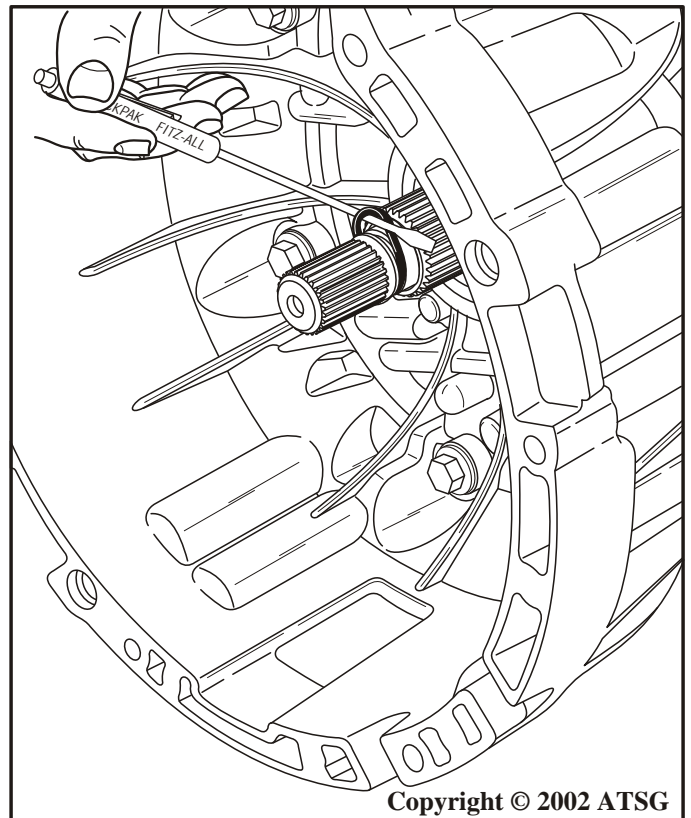

Figure 212
21. Rotate the transmission in fixture so that the bottom pan is facing down (See Figure 212).
22. Install a new turbine shaft "O" ring, as shown in Figure 212, if you have not already done so.